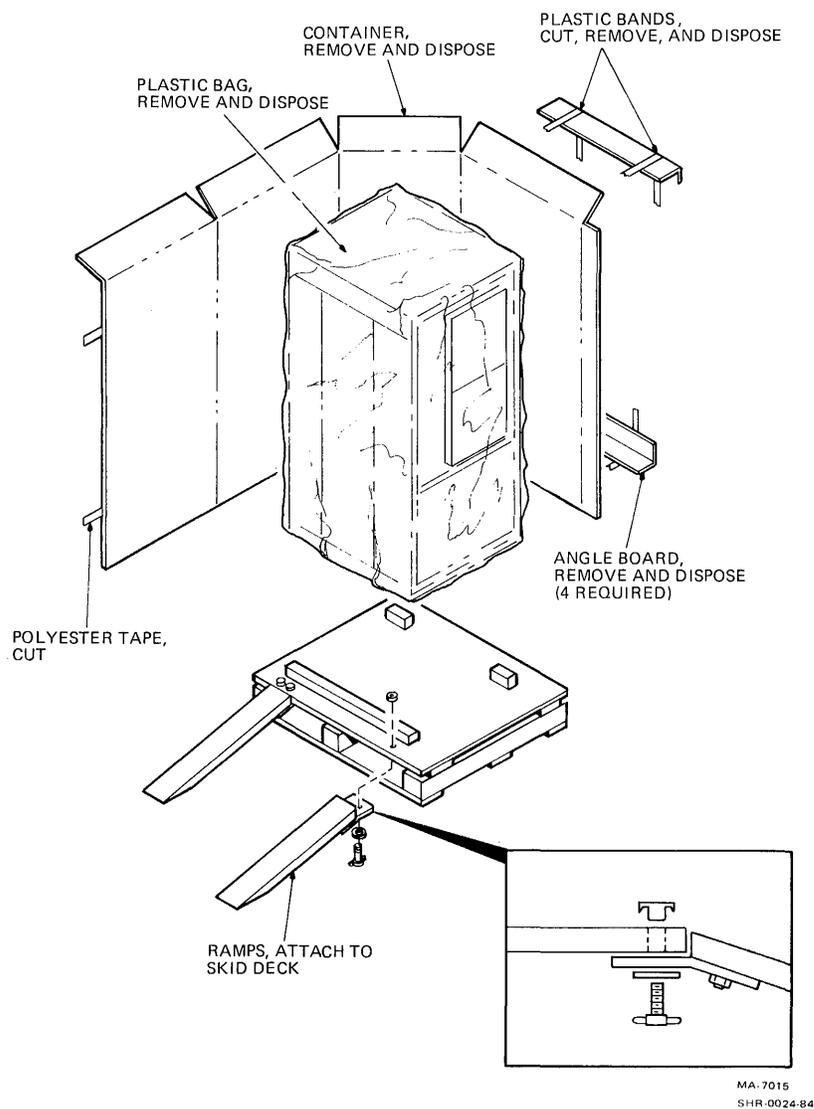

Figure 2-3 Unpacking the TA78
To unpack the TA78, perform the following procedure. (Refer to Figure 2-3.)
5. Attach both skid ramps and secure to the side of the skid as shown in Figure 2-3.